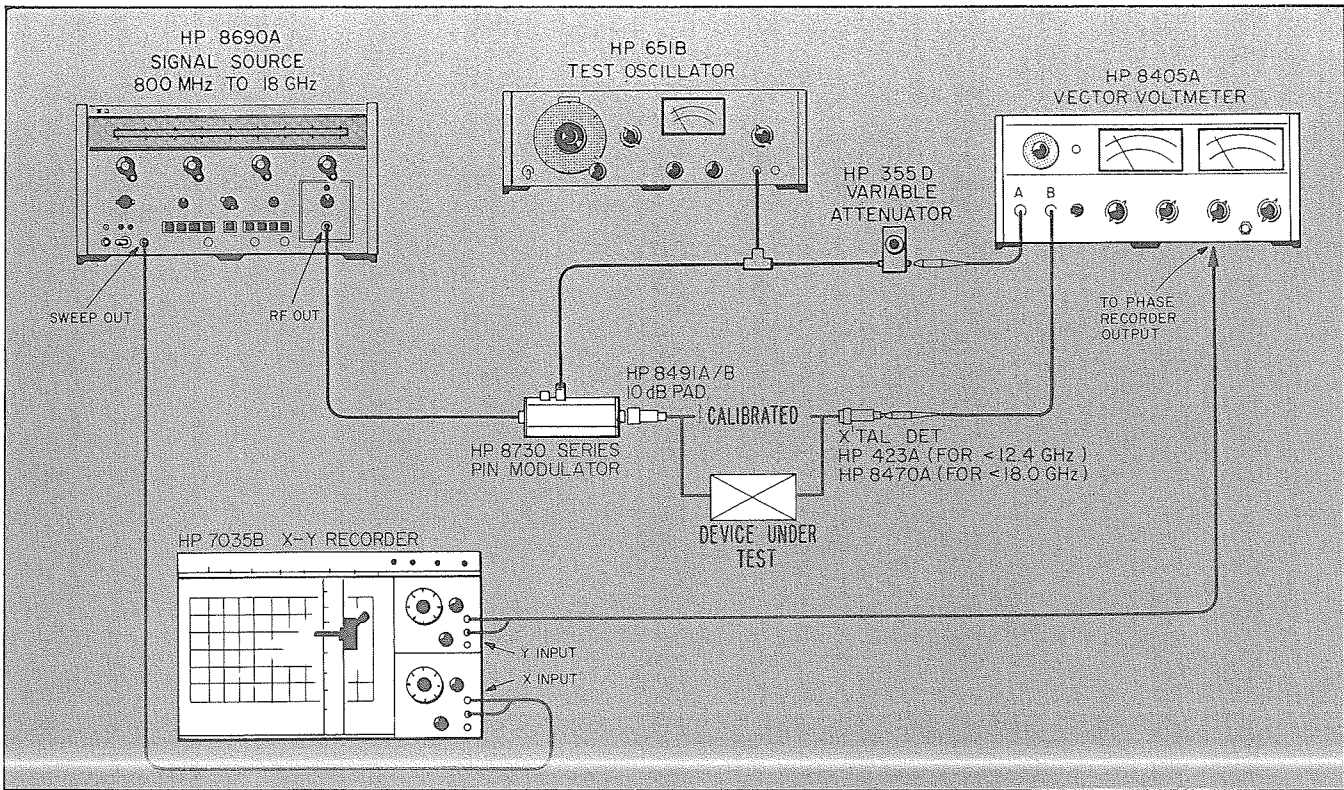
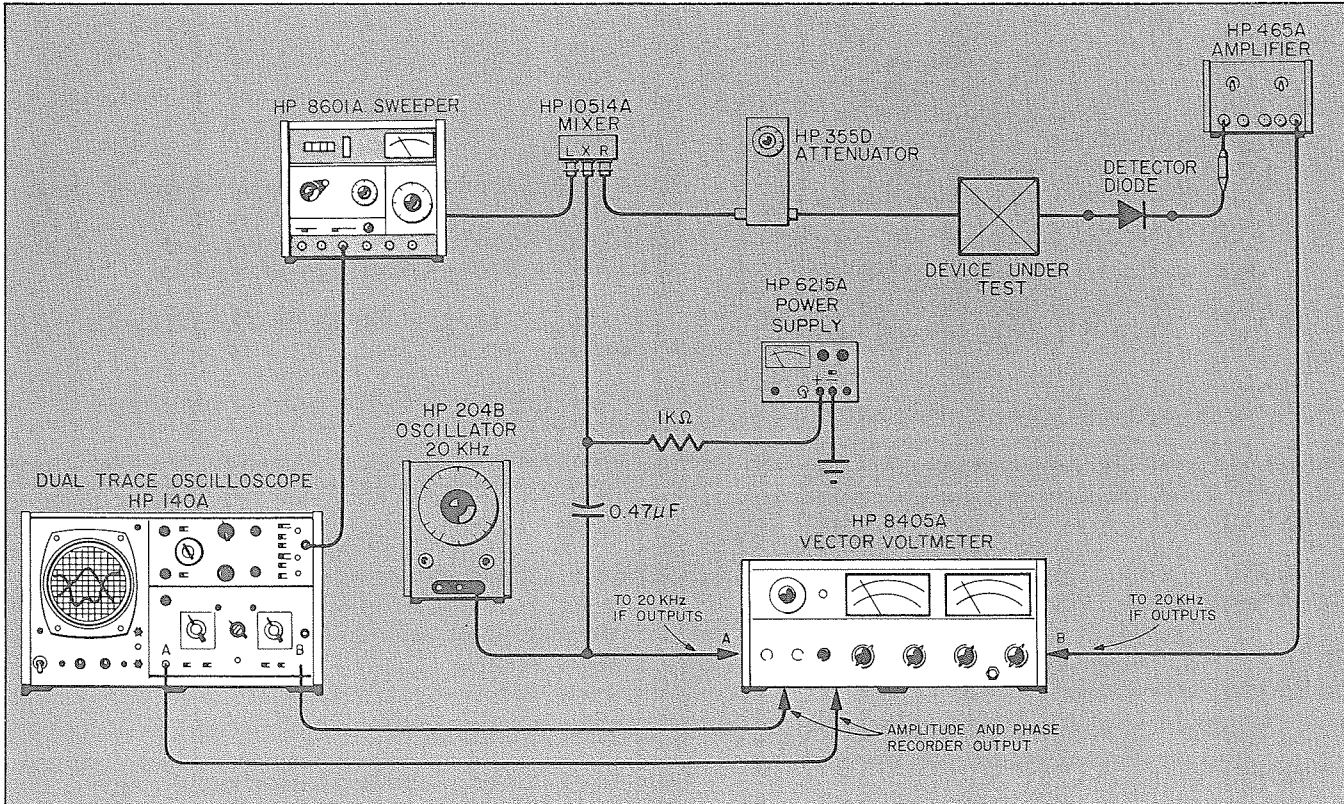

Figure 3. Setup for Making Swept-Frequency Group Delay Measurements
Figure 4. Test Setup for Making Swept-Frequency Group Delay Measurements Using a 20-kHz Modulation Frequency
Test setups for making swept-frequency group delay measurements using the 8405A are shown in Figures 3 and 4. The setup in Figure 3 is used when the modulation frequency is greater than 1 MHz. This setup is shown for coax measurements, but measurements can also be made for waveguide test devices by using appropriate waveguide components. The setup in Figure 4 is used when the modulation frequency is 20 kHz.
means of modulating a signal below 500 MHz is with an HP 10514A Mixer as shown in Figure 4.
- a. Set up equipment as shown in Figure 3 without the test device and turn on all equipment.
b. Set up equipment as shown in Figure 4 and turn on all instruments.